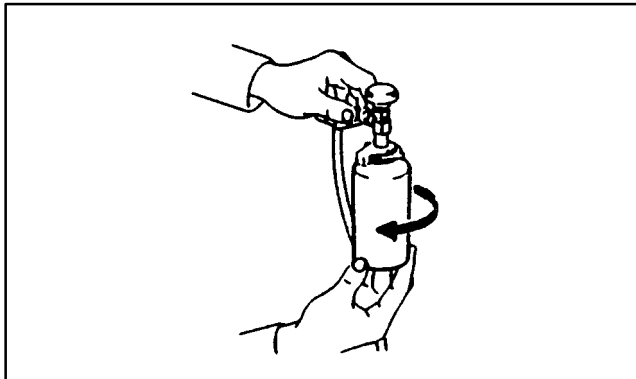

Figure 13
- (10) Turn the service can valve counter-clockwise and remove it from the service can holder and the refrigerant oil charge can. **(Figure 13)**
- (11) Remove the service can holder from the refrigerant oil charge can by moving the lever counterclockwise.